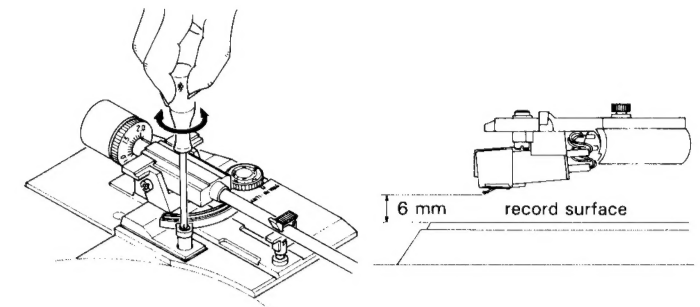

Fig. 29
## 6-(4) Tonearm Elevator-height Adjustment (Fig. 29)